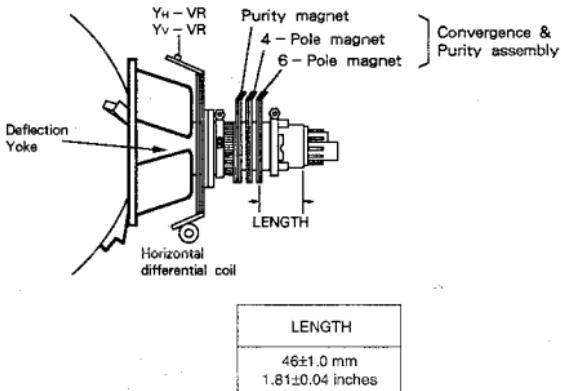

Fig. 5-1
- (1) Remove the deflection yoke and rubber wedges from the picture tube cone, take care not to strike or scratch the cone surface.
- (2) Clean any remaining cement off the deflection yoke and the surface of the picture tube cone.
- (3) Put the deflection yoke on the neck of the picture tube, fully forward against cone.
- (4) Put the Purity & Convergence assembly on the neck of the picture tube so that the distance between the 6-pole magnet and the base of the tube is 1.81 ± 0.04 inches (46 ± 1.0 mm) as shown in Fig. 5-1, and tighten screw by hand.
- (5) Demagnetize the front and sides of the receiver with a degaussing coil.